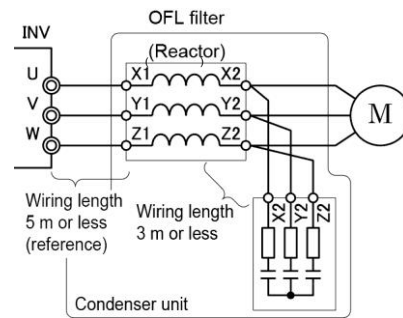

Figure 7.2.1-1: Circuit configuration
- (1) The wiring length for the filter capacitor must be within 3 m as shown in Figure 7.2.1-1, and the wiring must be separated from the control circuit.
- (2) The wire to be connected to the filter capacitor must not touch (closely contact) the resistance elements. If there is a possibility that the wire might contact the resistance elements, be sure to take a measure to protect the wires (for instance, cover the wires with a glass tube).
- (3) Install the output circuit filter on the inverter side. Wiring length between inverter and OFL filter should be within 5 m as a rough guideline. However, wiring length longer than this will not pose any particular problem.